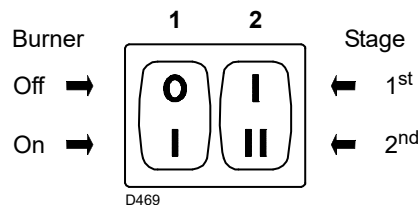

Fig. 21
- Start the burner by closing the control devices and with switch 1)(Fig. 21) in the "ON" position. The pump must rotate in the direction of the arrow marked on the cover.
- Stop the burner: switch 1)(Fig. 21) set to "OFF" and tighten the screw 3).